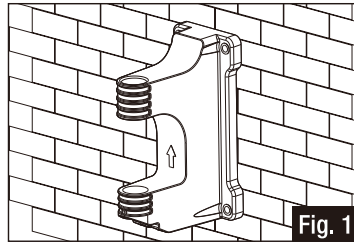

Fig. 1
- Use the wall mount bracket to mark the four hole positions on the wall using a carpenter's pencil (Fig. 1).